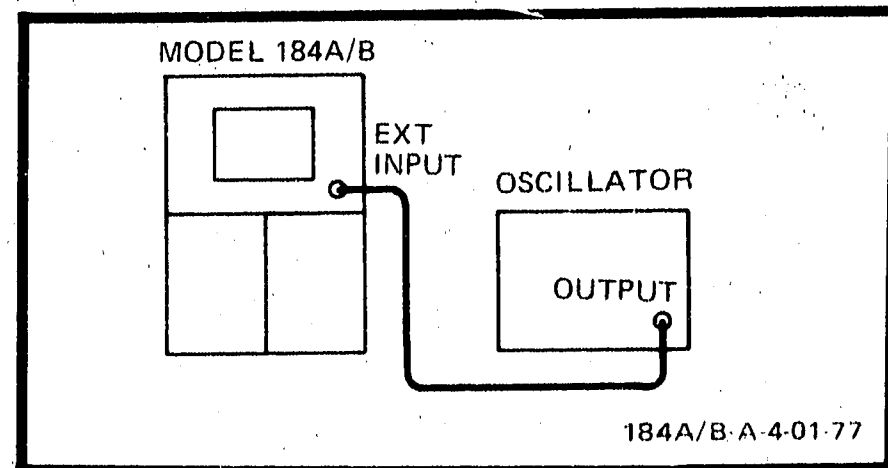

Figure 5-3. Horizontal Bandwidth Check
a. Connect 50-kHz signal from oscillator to EXT INPUT (figure 5-3).